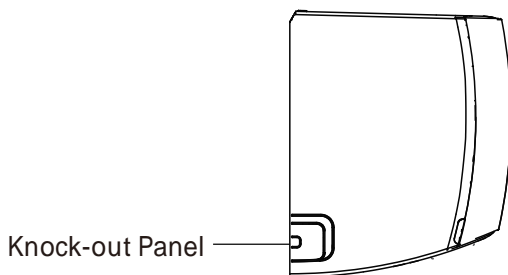

Fig. 3.3
2. If the wall hole is behind the unit, keep the knock-out panel in place. If the wall hole is to the side of the indoor unit, remove the plastic knock-out panel from that side of the unit. (See Fig. 3.3 ). This will create a slot through which your piping can exit the unit. Use needle nose pliers if the plastic panel is too difficult to remove by hand.